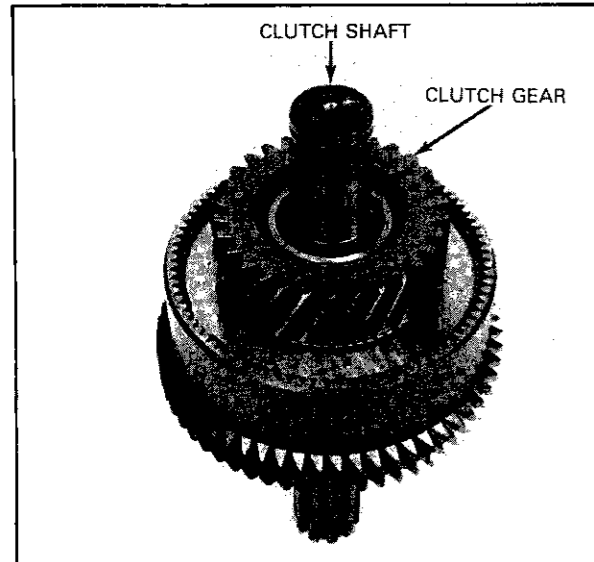

FIG. 28 CLUTCH GEAR INSTALLATION
25. Assemble the clutch gear over the shaft to rest against the thrust washer. It will be necessary to rotate the clutch gear to engage the splines of the gear with the teeth of the clutch plates (Fig. 28).